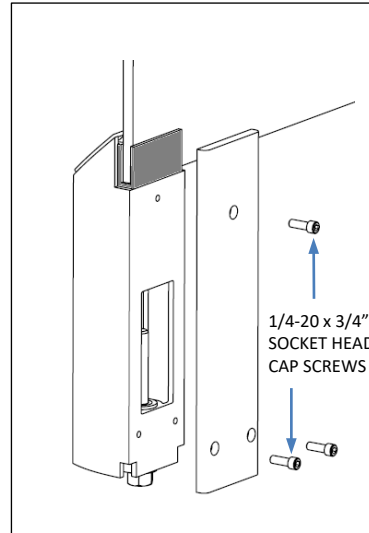

Fig. H12 – Install post cover plates
9. Install post cover plates, see Fig. H12. Do not fully tighten.